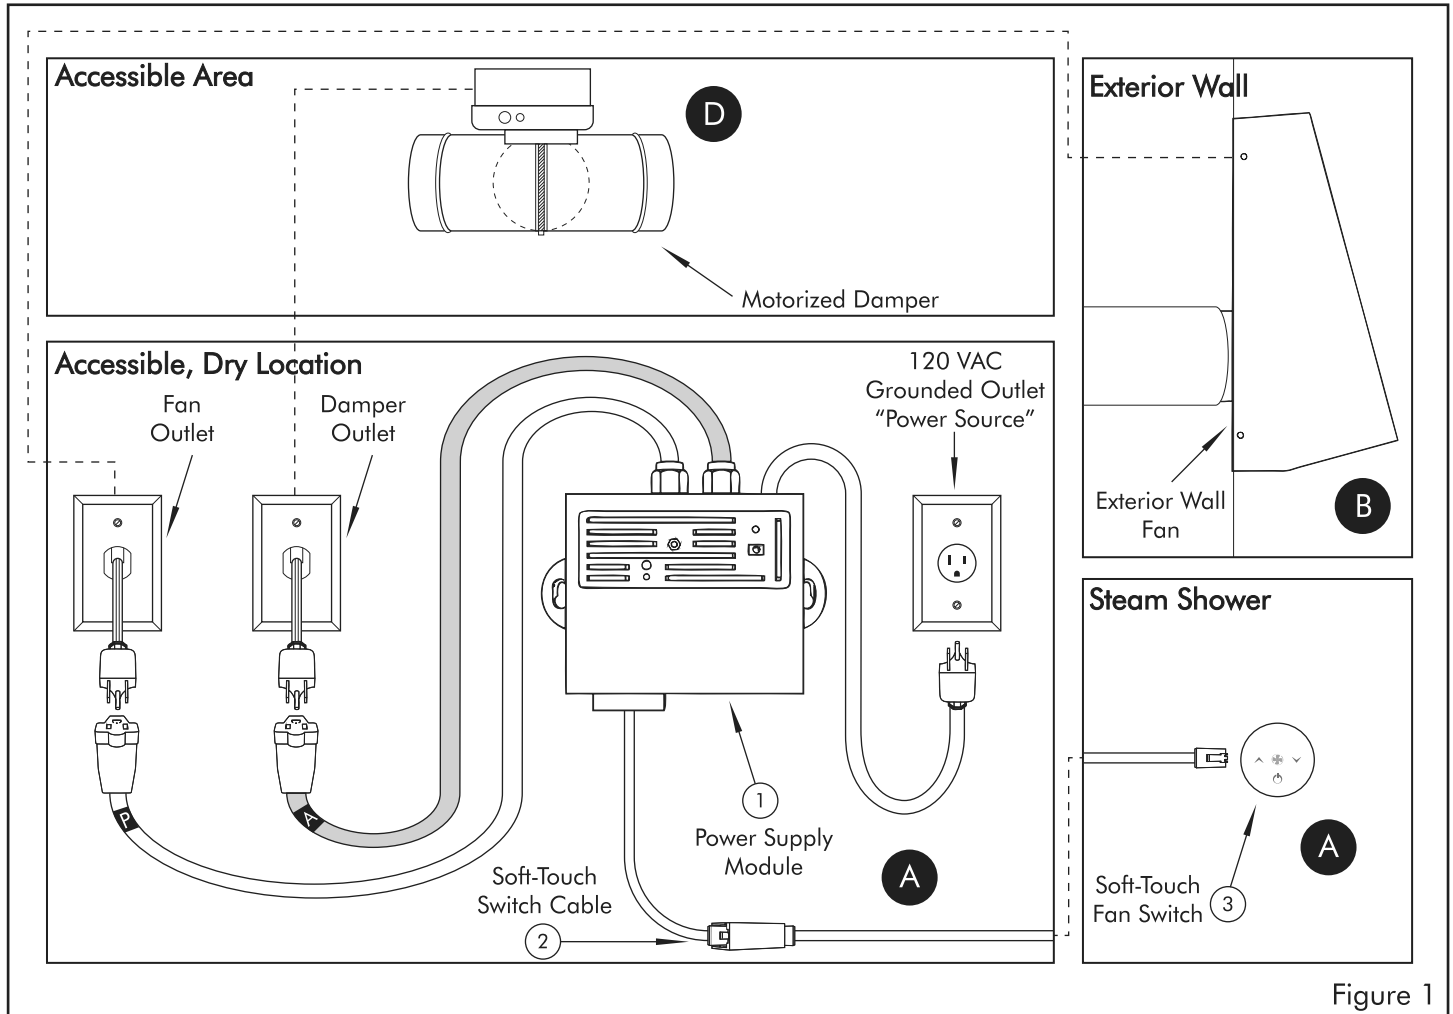

Figure 1
1. Using mounting screws (6), mount the power supply module (1) in an accessible dry location and within the 25' run of the Soft-Touch switch cable (2) length.
2. Install three electrical boxes and within 36" of the power supply module (1) (see figure 1).